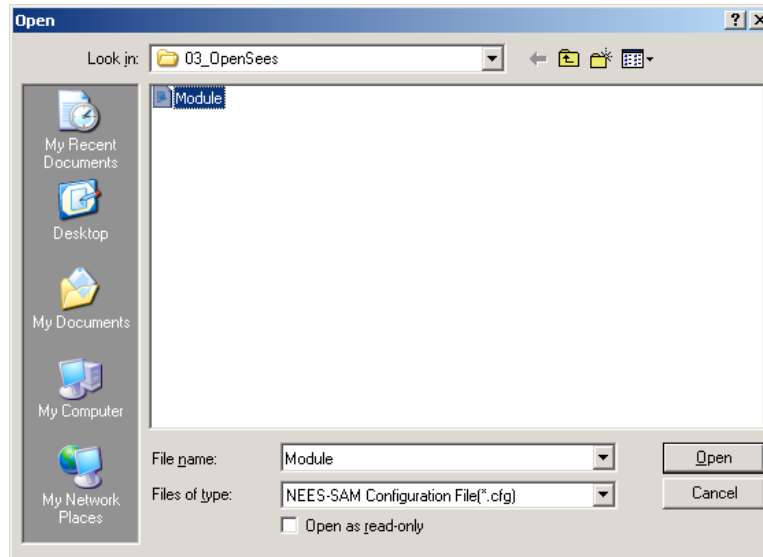

Figure 6: NEES-SAM Open File Window for LabVIEW Example.
- An Open File window will appear (Figure 6). Choose the `Module.cfg` file located in `C:\SIMCOR\03_Examples\SDOF\03_OpenSees`. Hit **Open**.